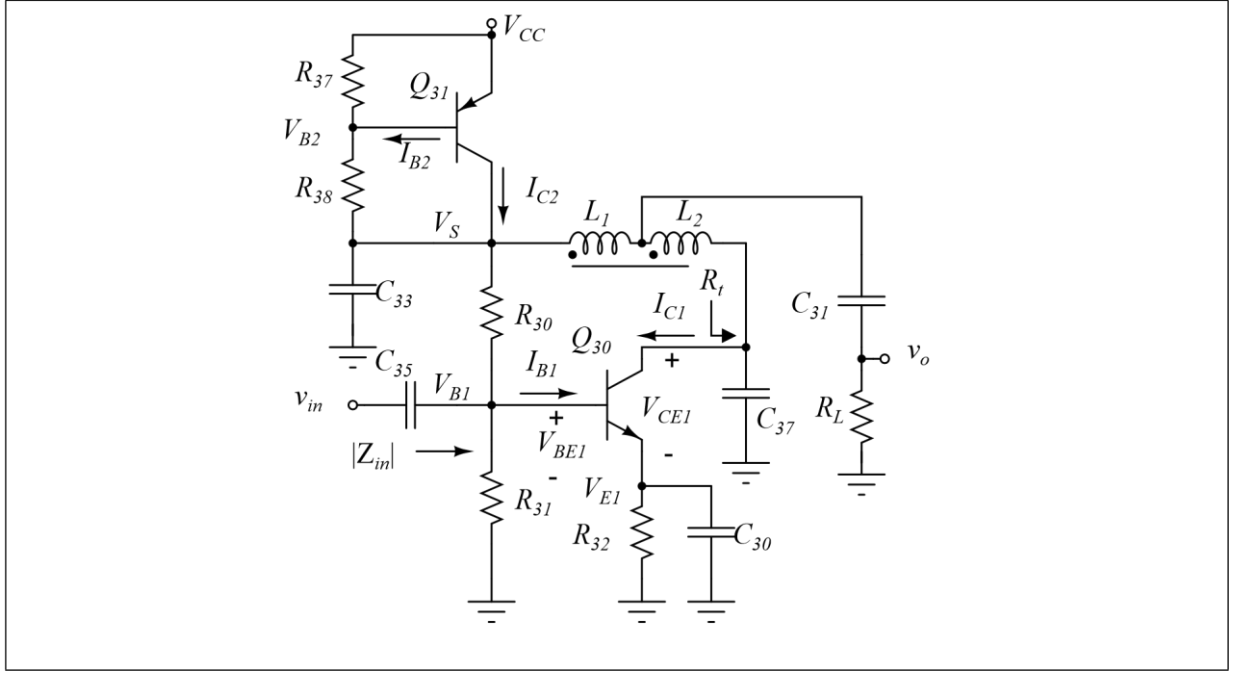

Figure 1: Schematic of transmitter amplifier.
1. A tuned RF amplifier that acts as the transmitter amplifier of TRC-11 can be built using a BJT, Q30. BJT to be used is a more powerful NPN transistor, 2N2222. Inspect the datasheet given in 347. It can handle currents up to 600 mA and voltages up to 40 V. It can dissipate up to 625 mW power at room temperature. These values are considerably high compared to KSP10 used earlier. Refer to the circuit given in Fig. 1. It is a Class-A power amplifier intended to drive an antenna. R_L is the load to be driven (it is actually the real part of the antenna impedance to be discovered later). The power delivered to R_L is the transmitted RF power into the air when the antenna is used. Actually, the output power is intentionally kept low, not to violate local RF transmission limits in this frequency band. C_{31} is a DC block capacitor. L_1 , L_2 and C_{37} form an impedance transformation network, that transforms R_L into an optimal impedance for the transistor.